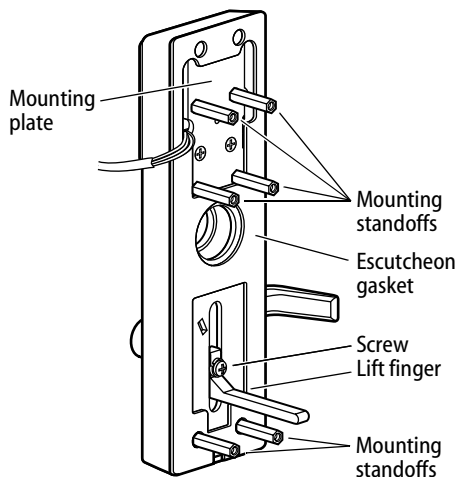

Figure 1 Removing and reinstalling the mounting standoffs, gasket, and lift finger
- 1 Unscrew the six mounting plate standoffs from the mounting plate (Figure 1).
- 3 Position the washer on the lift finger screw. Tightly secure the lift finger with the lift finger screw (25–30 foot-pounds of torque) (Figure 1).
- 5 Screw the six mounting standoffs onto the mounting plate (Figure 1).